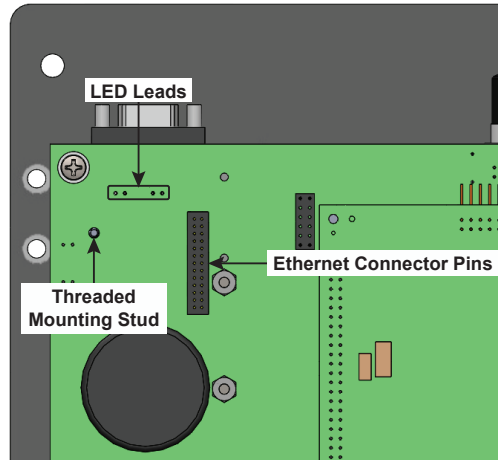
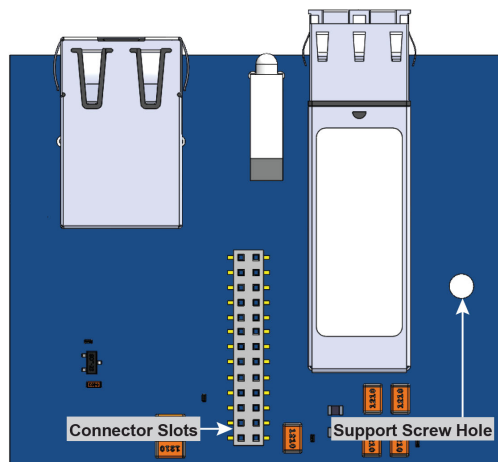
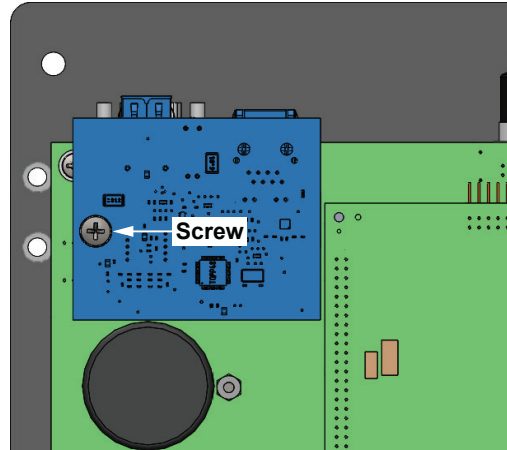

Figure 6-2 Main PCB, Upper-Left Corner
Figure 6-3 Bottom of Dual-Ethernet RJ-45 and Fiber Optic Board, Connector Orientation
Figure 6-4 Main PCB, Dual-Ethernet Fiber Optic Board Installed
1. Locate the Ethernet connector pins and threaded mounting stud (Figure 6-2) on the upper left-hand corner of the main PCB.
3. Observing the orientation of the connector slots (Figure 6-3) on the Ethernet board, mount the Dual Ethernet board onto the Ethernet connector pins (Figure 6-2) of the main PCB.
■ **NOTE:** Verify that the fiber connector on the Ethernet board does not contact the LED leads (Figure 6-2) protruding from the main PCB. If the LED leads contact the connector, perform the following:
4. Install one 4-40 x 1/4 screw into the standoff through the Ethernet board support screw hole (Figure 6-3). Figure 6-4 shows the Ethernet board properly mounted.